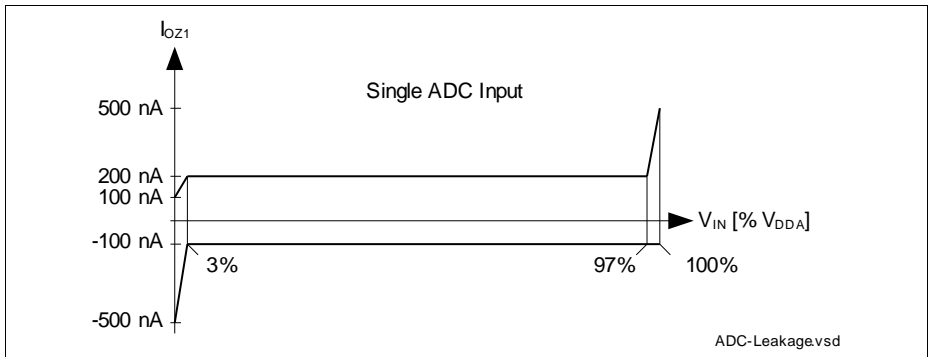

Figure 14 ADCx Analog Input Leakage Current
- 3) The leakage current definition is a continuous function, as shown in figure ADCx Analog Inputs Leakage. The numerical values defined determine the characteristic points of the given continuous linear approximation - they do not define step function (see **Figure 14**).